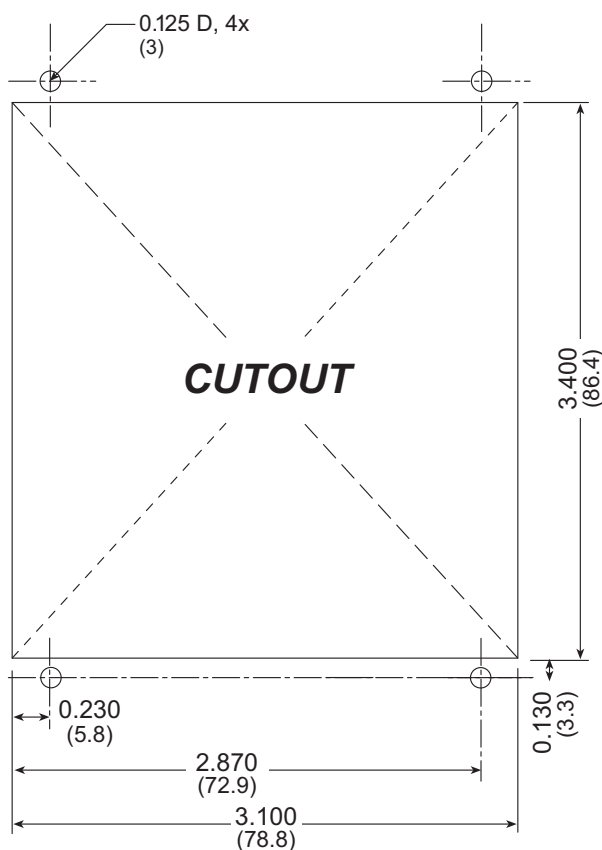

Figure B-7. Recommended Cutout Dimensions
1. Cut mounting holes in the mounting panel in accordance with the recommended dimensions in Figure B-7, then use the bezel faceplate to mount the LCD/keypad module onto the panel.